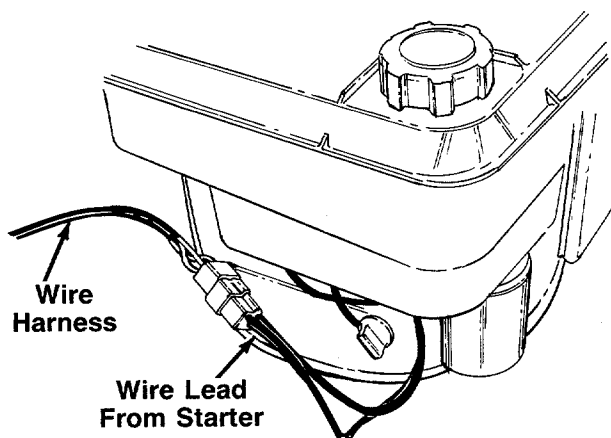

FIGURE 10.
15. Plug the end of the wire lead coming from the starter on the engine into the plug on the end of the wire harness. See figure 10.